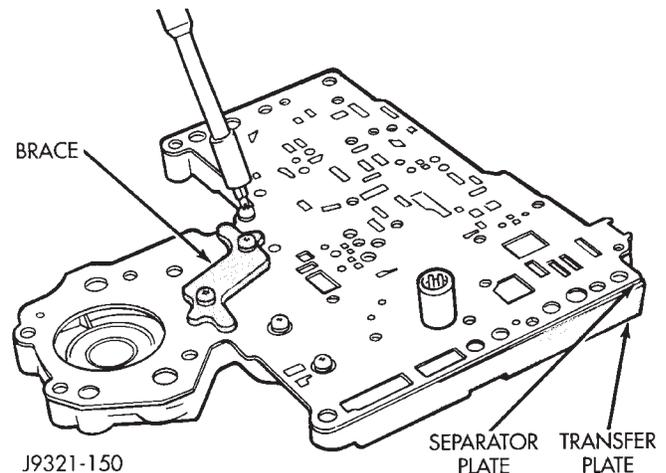

Fig. 97 Brace Plate
- (3) Align and position upper housing separator plate on transfer plate (Fig. 97).
- (4) Install brace plate (Fig. 97). Tighten brace attaching screws to 4 N·m (35 in. lbs.) torque.
- (5) Install remaining separator plate attaching screws. Tighten screws to 4 N·m (35 in. lbs.) torque.